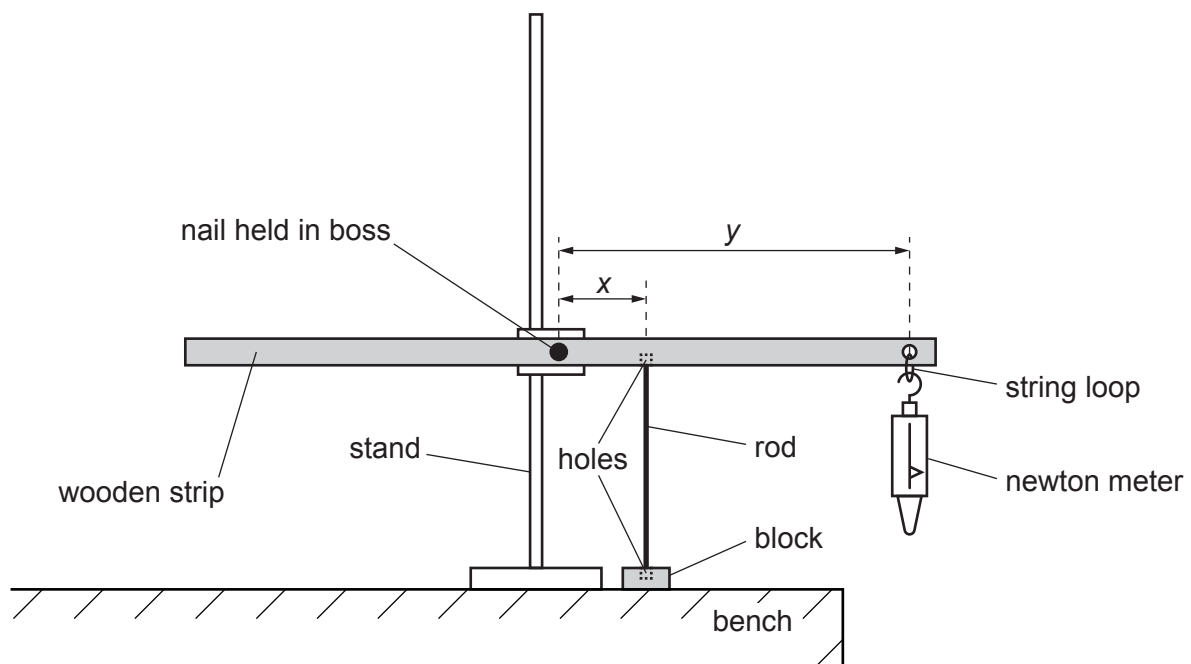

Fig. 2.1
(b) • Assemble the apparatus as shown in Fig. 2.1 using the longer rod.
- The distance between the nail and the top of the rod is x and the distance between the nail and the string loop is y , as shown in Fig. 2.1.
- Set up the apparatus as shown in Fig. 2.1 using the shorter rod.